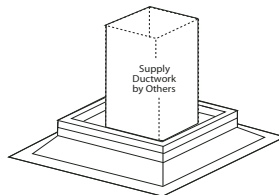

Figure 3 – Installing Ductwork
- Good duct practices should be done in accordance with SMACNA and AMCA guidelines, NFPA 96 and any local codes. The ductwork should extend far enough above the roofline to meet the supply unit once it is installed. See Figure 3.